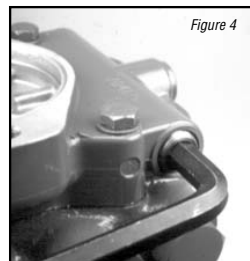

Figure 4
**3** Use a 7/16 in. Allen wrench or bit socket remover to remove the charge pressure relief valve spring retainer from the pump adaptor assembly (see Figure 4).